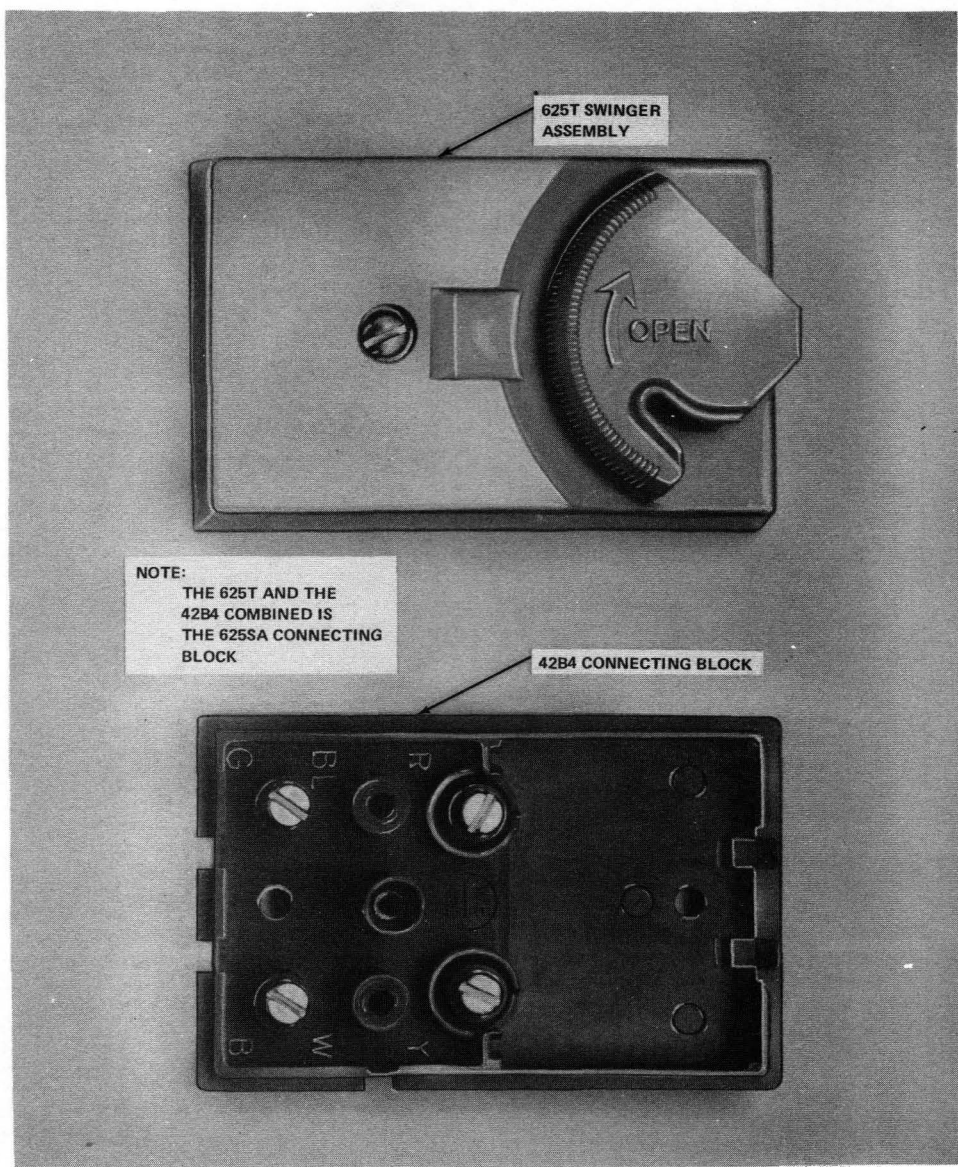

Fig. 7—625SA Connecting Block
2.11 ♦The 625S connecting block consists of a 625T (Fig. 7) swinger-type connecting block and a
2.12 The 625SA connecting block (Fig. 7) is similar to the 625S connecting block. It consists of a 625T swinger-type connecting block and a four screw terminal 42B4 connecting block base. The 42B-type base fits tightly against the 625T connecting block to resist contamination from the surrounding area. The 625SA connecting block is the preferred connecting block to be used in areas where excessive dust, moisture, insects, and other contaminants are present. The 625SA connecting block is available in ivory (–50) or brown (–54).
2.13 The 625S6 connecting block (Fig. 7) is identical to the 625SA connecting block except that it is
2.14 The **625T** swinger assembly (Fig. 7) is the cover for the 625S connecting block. It is used to convert existing 42A or 625-type connecting blocks to modularity where extra protection is needed.
- (2) Install the surface-mounted swingers in the horizontal position so the OPEN label is orientated for correct reading (Fig. 7) and place where convenient for ease of connecting and disconnecting the miniplug.
3.09 625S Connecting Block: Mount the 42A connecting block on the wall (preferred) or baseboard so the 625S connecting block cover is positioned as shown in Fig. 7. When mounting on masonry walls, a backboard should always be used.
The horizontal position (Fig. 7) is the preferred position to mount these connecting blocks.♦